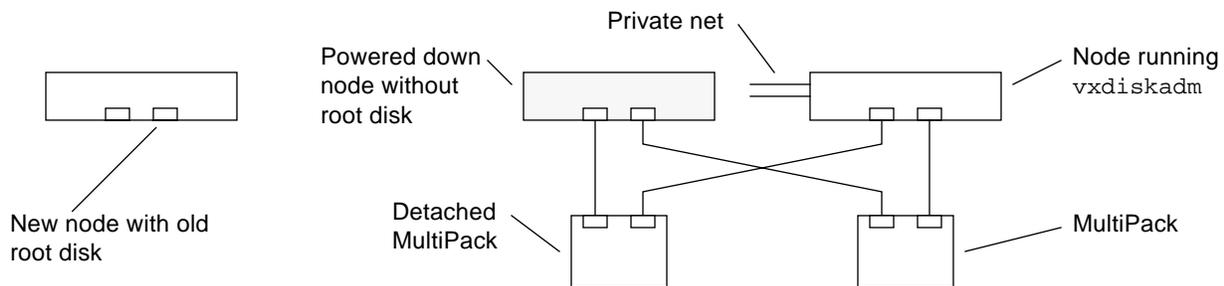

Figure 7-2 First MultiPack Detached
5. Disconnect the private net cables (Figure 7-2).
6. Use the running node to detach one of the MultiPacks. Use the `vxdiskadm` command of the CVM or VxVm to detach the MultiPack (Figure 7-2).
3. Disconnect the private net cables (Figure 7-2).